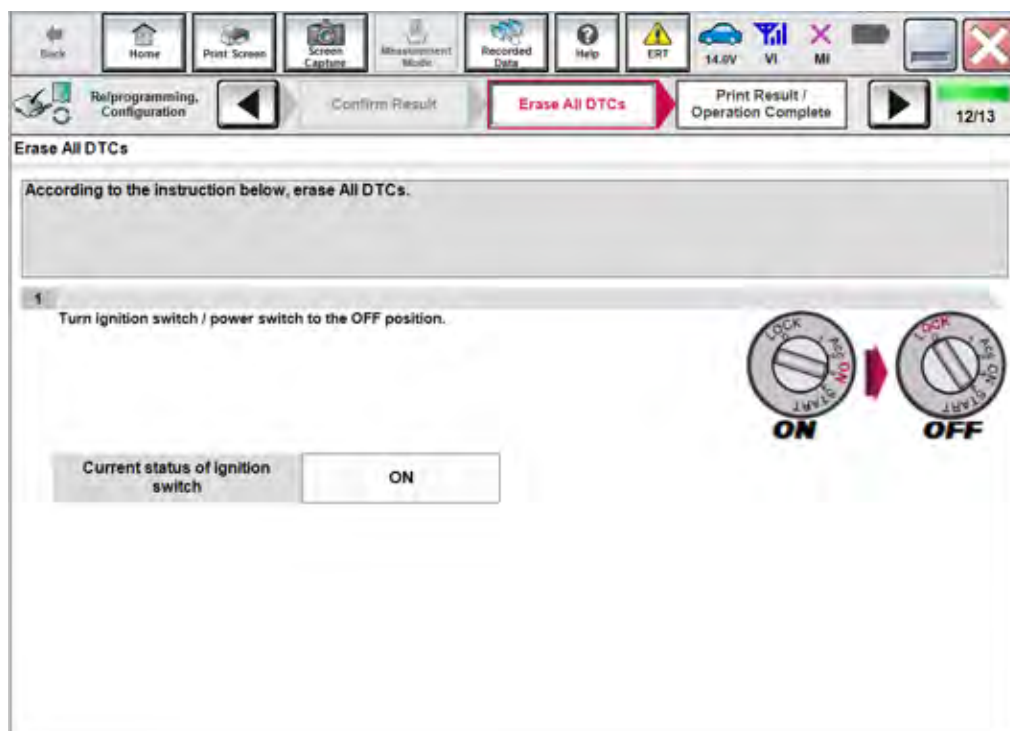
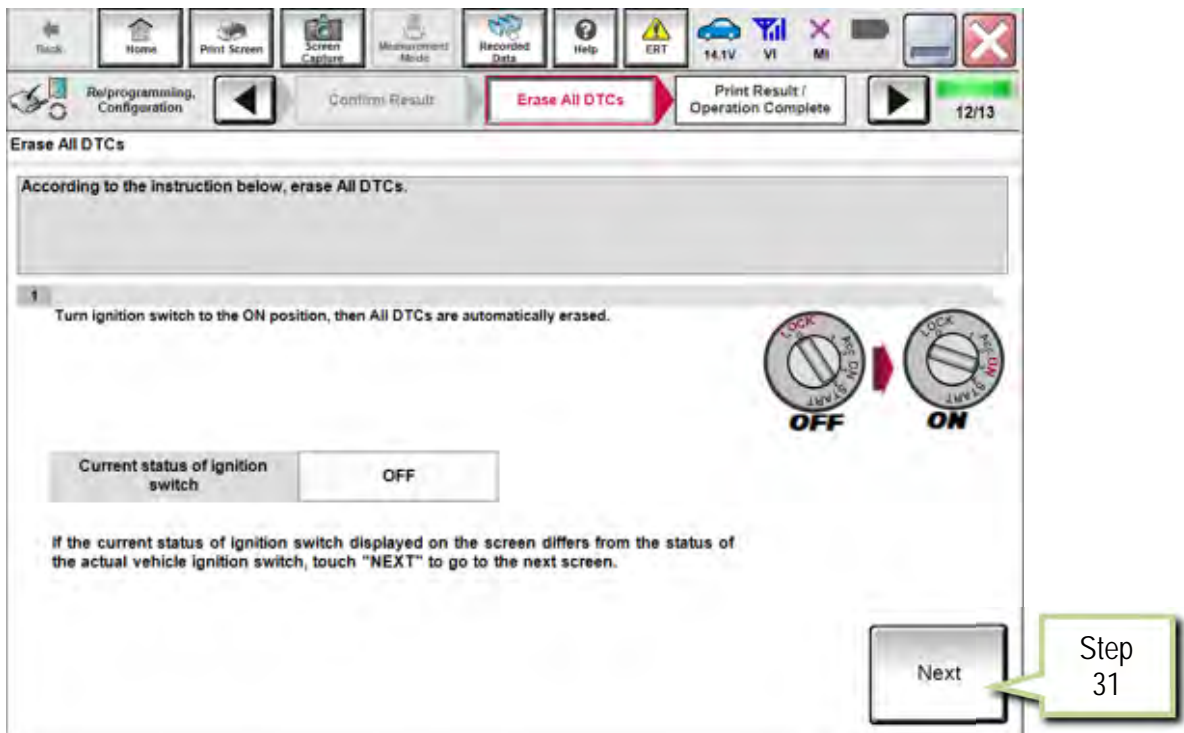

Figure 18
Figure 19
- See Figure 18 below, and Figure 19 on the next page.